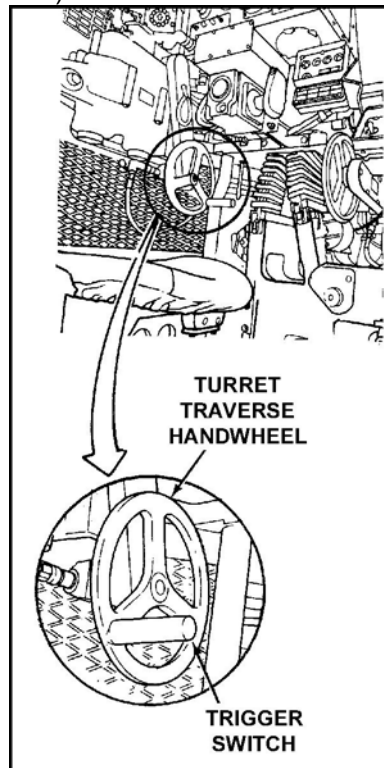

Figure 5. Turret traverse handwheel.
4. Perform a function check on the 25-mm automatic gun using the trigger switch in the handle on the turret traverse handwheel (Figure 5).